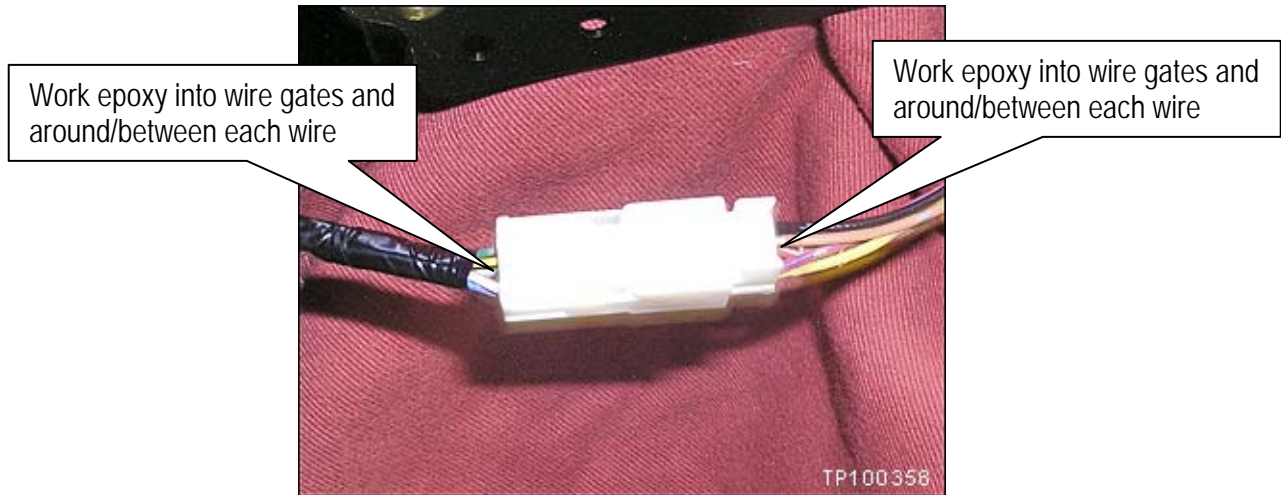

Figure 7
15. Apply the epoxy to the back side (wire gates) of the BTS connector (see Figure 7).